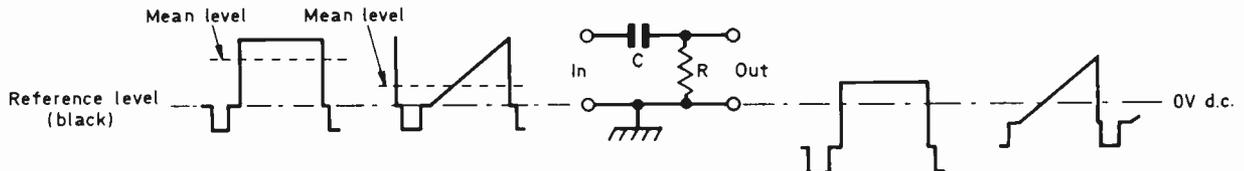

Fig. 1: The loss of the d.c. reference level that occurs when a video waveform passes through an RC coupling circuit.
D.C. information cannot pass through a capacitor. Fig. 1 shows at the left two video signals, one with only peak white in it and the other a sawtooth. If both these signals are passed through an RC coupling circuit as shown the result is a loss of the d.c. component. The outputs take up the mean level of each signal—different in each case—and the reference black level is removed.
A.C. coupling is used between stages in television receivers and the d.c. datum of black level is thus inevitably lost. Direct coupling between stages could be used—avoiding the use of coupling capacitors—but such stages are difficult to make stable cheaply and are therefore impractical for domestic equipment. To replace the d.c. component after using RC coupling is relatively easier and there are two basic solutions available: (1) the d.c. restorer; (2) the clamp.